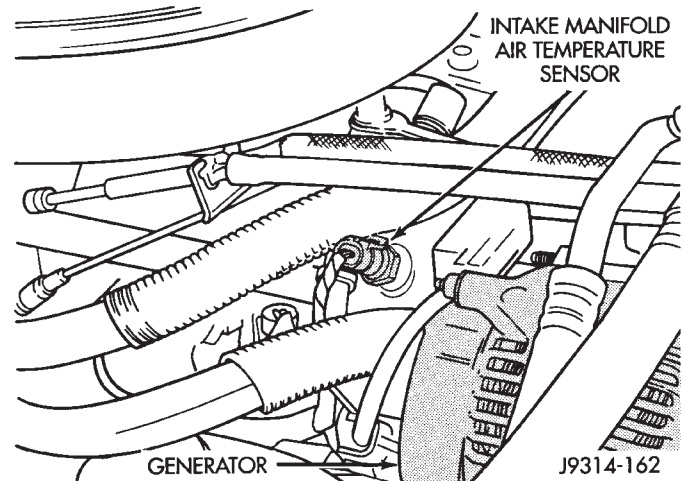

Fig. 26 Air Temperature Sensor—5.2L Engine
(12) If equipped with vacuum brake booster, verify that vacuum booster hose is firmly connected to fitting on intake manifold. Also check connection to brake vacuum booster.
(13) Inspect the air cleaner inlet and air cleaner element for dirt or restrictions.
(14) Inspect radiator grille area, radiator fins and air conditioning condenser for restrictions.
(15) Verify that the intake manifold air temperature sensor wire connector is firmly connected to harness connector (Fig. 26).